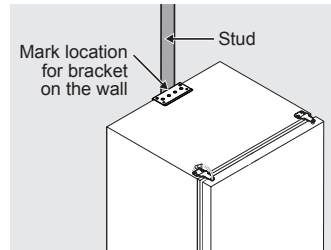

Figure 1
4. Identify a stud in the wall, behind where the unit will be placed, and make a mark on the wall (see Figure 1). If no stud is present behind where the hole is marked, go to step 6.
7. Place the bracket against the wall and align the bottom face of the bracket with the measured height from step 6. Make sure one of the center holes is aligned with the mark made in step 4, and confirm the bracket is in the proper orientation (see Figures 1 and 2). Level the bracket.